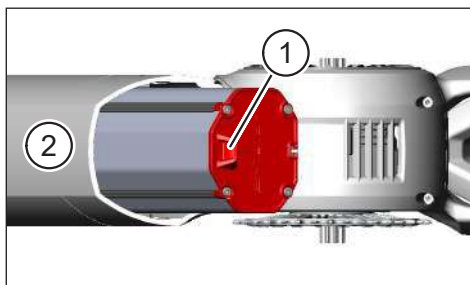

Fig. 13: Removing the battery from the down tube
- ▶ Use the recessed grip to pull the battery (No. 1 in Fig. 13) out of the down tube (No. 2 in Fig. 13).